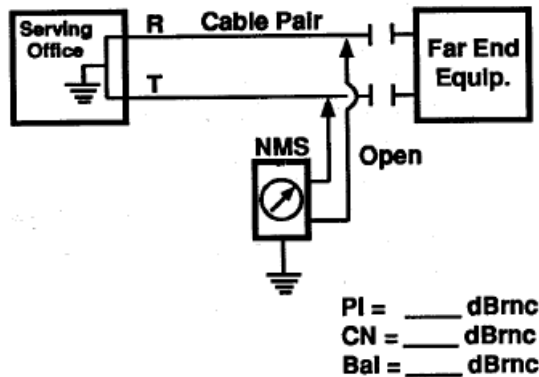

Figure 4
(c) If the equipment's circuit balance value is provided and the circuit does not meet its desired noise levels, measure the serving facility's Power Influence (PI) and Circuit Noise (CN). See Figure 4.